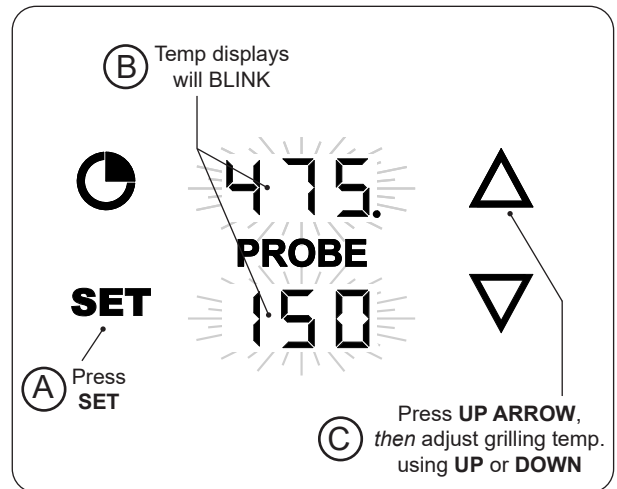

Fig. 40-1 Set grilling temp.
1. With the thermometer/thermostat **on**, press the **SET** button once. The grilling and probe displays will blink. (While blinking, either area can be selected to enter their settings.) See Fig. 40-1, A and B.
2. Press the **UP ARROW** to select the grilling temp settings, *then* use the up or down arrows to set the desired temp. (Fig. 40-1, C).